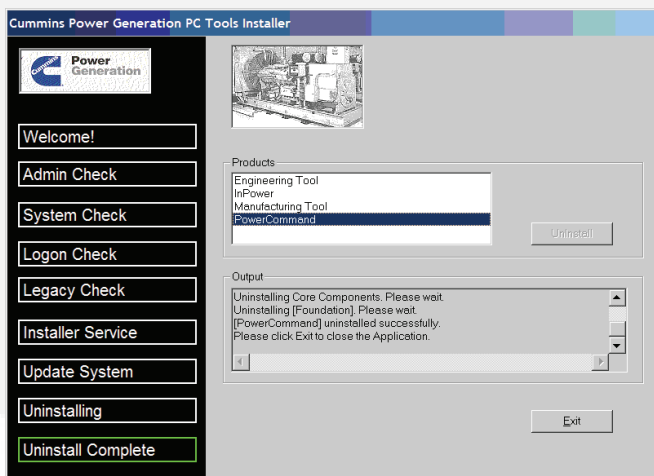

FIGURE A-6. UNINSTALL COMPLETE
14. Monitor the text in the *Output* box, when the text reads *uninstalled successfully*, click on the **Exit** button. Figure A-6.